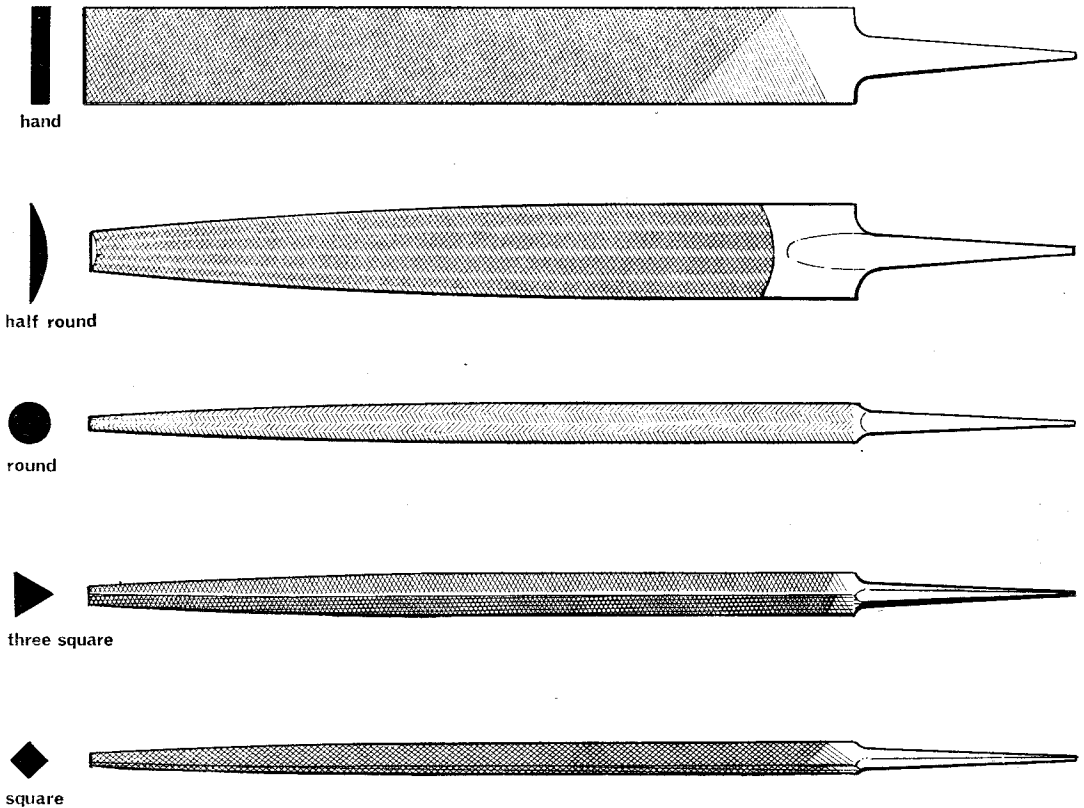

Fig. 24 Types of file
27. **Section.** Standard cross-sections are shown in Fig. 24.